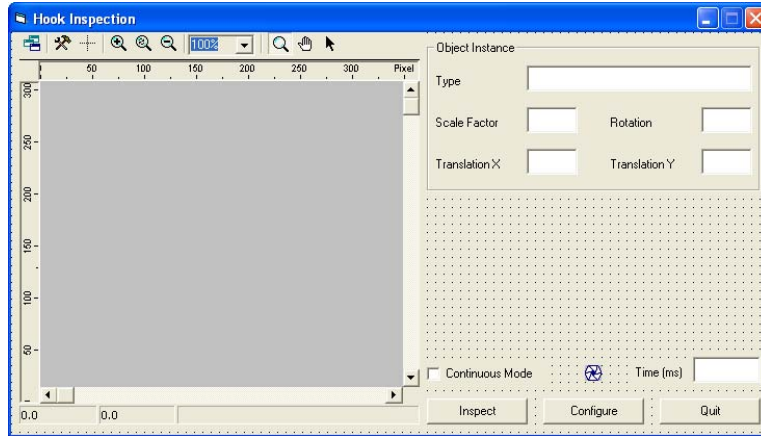

Figure 64 Visual C++ Dialog for Tutorial 2
6. The interface of the project is now complete and should look like the following dialog in Figure 64.